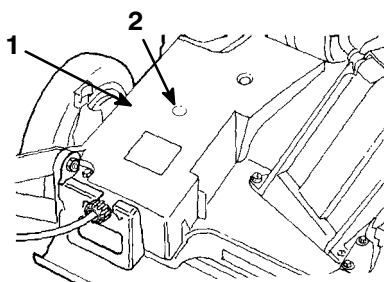

Figure 39
2. Install a grease gun onto the fitting through the belt cover opening (Fig. 39).